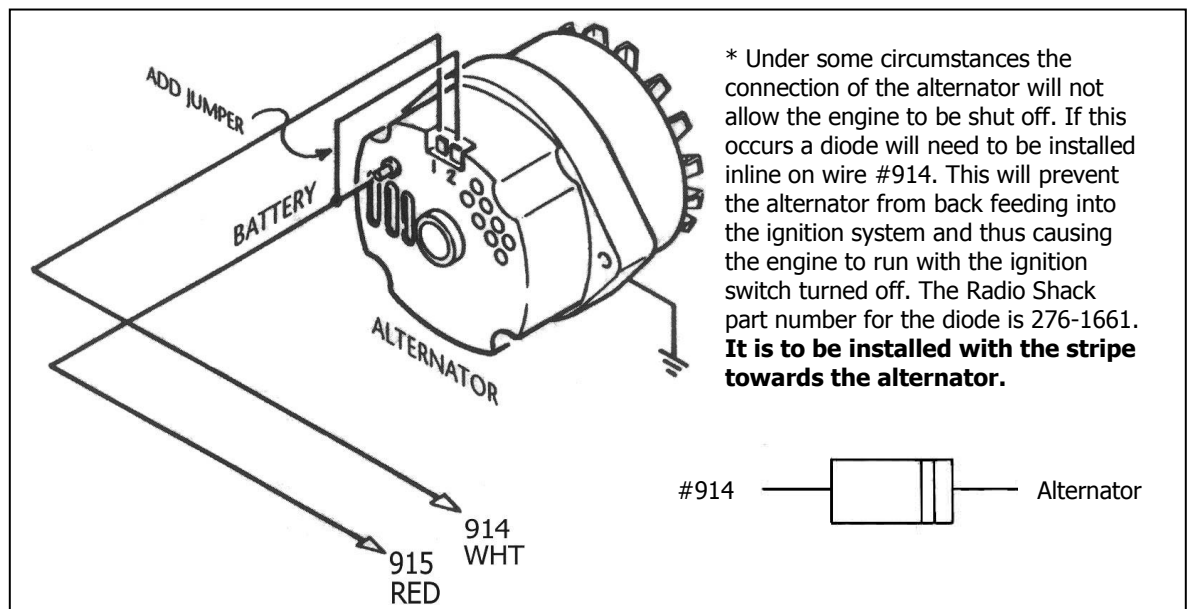

Figure 7-2A Late GM Alternator - Internal Regulator
7.2 Late GM Alternator - Internal Regulator. See Figure 7-2A.
** If you do not have a One Wire alternator refer to Figure 7-2A.